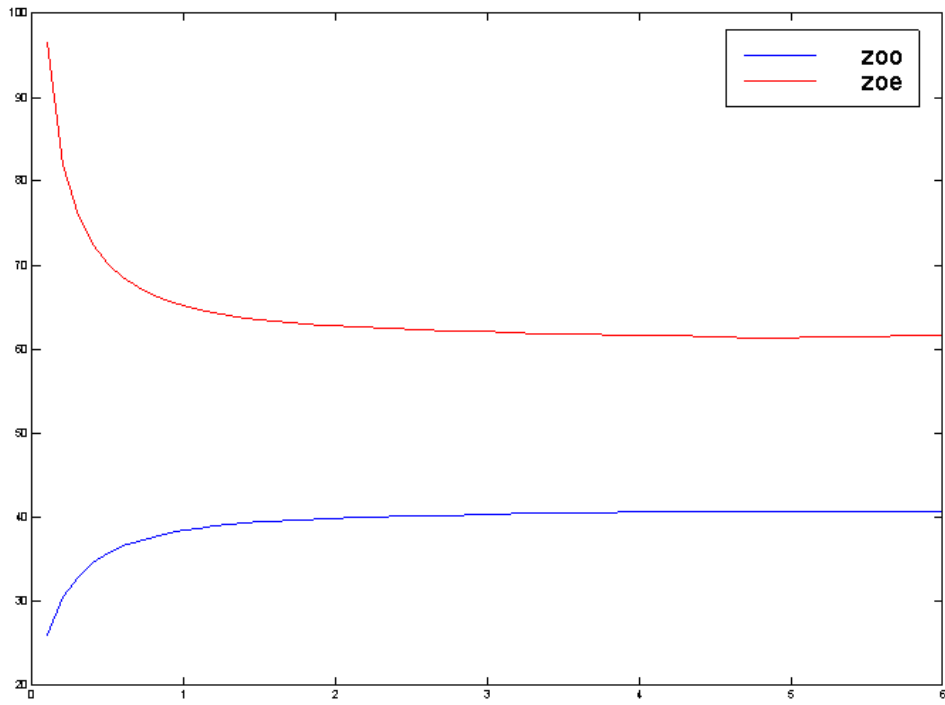
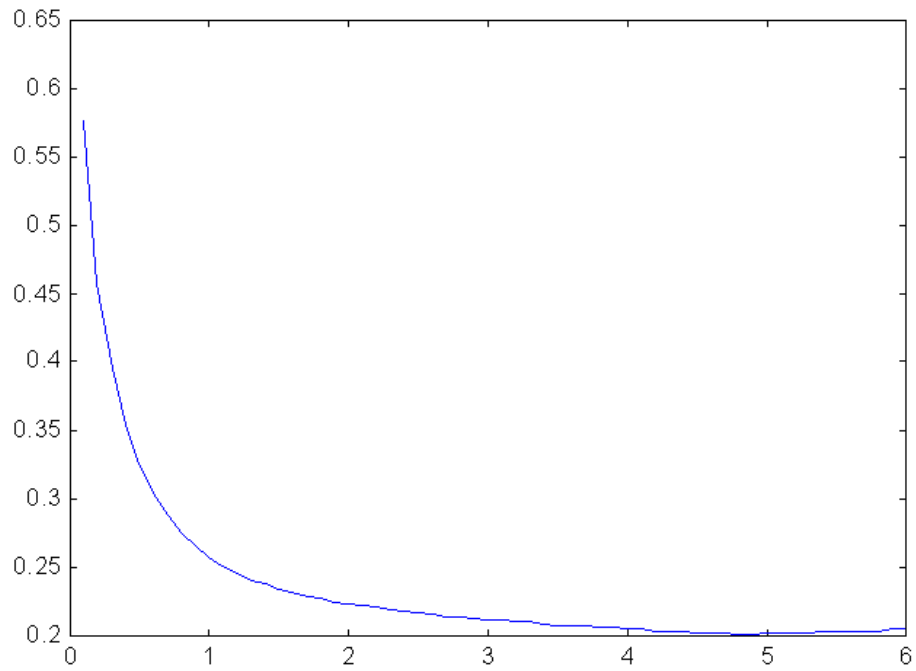

Fig2. Zodd and Zeven VS. S/W
Fig.3 Kc and Km VS. S/W
2. Mutual capacitance and mutual inductance of the coupled differential TL is derived from the actual geometrical, see detail derivation in the matlab file. The result is shown in Fig2 and Fig3. Fig2 shows Odd mode impedance and Even mode impedance Vs. S/W . We don't need to consider Even mode impedance too much since the common mode voltage on TL is zero for ACCI. Fig.3 shows the coupling coefficient: for lines in homogeneous medium, $K_m=K_c$. For case of $S=5*W$, $K_m=K_c=0.2$, $Z_{\text{odd}}=41\text{ohm}$ (that is Differential impedance is 80ohm).